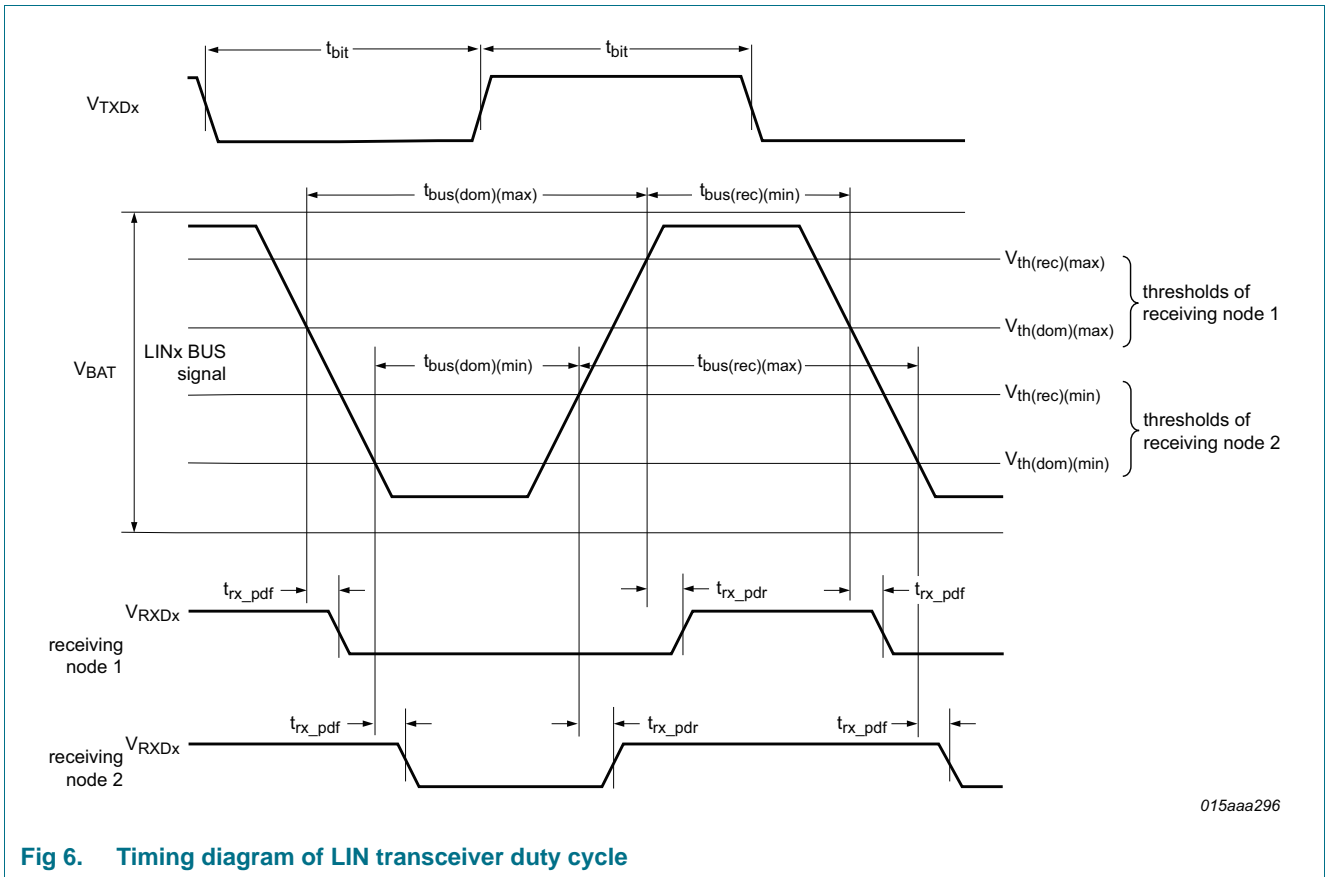

Fig 6. Timing diagram of LIN transceiver duty cycle
- [2] $\delta 1, \delta 3 = \frac{t_{bus(rec)(min)}}{2 \times t_{bit}}$. Variable $t_{bus(rec)(min)}$ is illustrated in the LIN timing diagram in Figure 6.
- [3] $\delta 2, \delta 4 = \frac{t_{bus(rec)(max)}}{2 \times t_{bit}}$. Variable $t_{bus(rec)(max)}$ is illustrated in the LIN timing diagram in Figure 6.
- [5] See timing diagram in Figure 6.